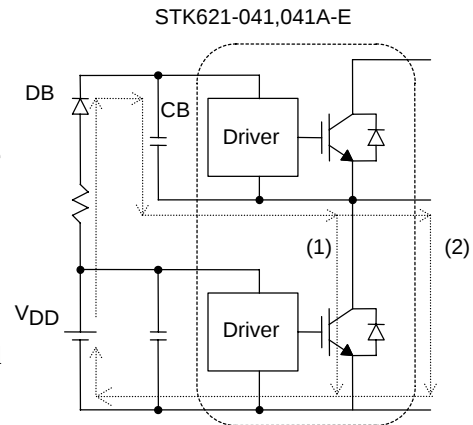

Figure 3 Bootstrap circuit and charge path
(4) VB1, VB2 and VB3 pins
These pins connect the positive power supplies for the upper-side power device pre-driver circuits. The three control power supplies each require an electrically insulated floating power supply. In addition to the method that uses three independent power supplies, this power supply can also be configured using the bootstrap circuit shown in Fig. 3. As shown in this figure, CB has a path (1) that is charged when the lower-side device is ON, and a path (2) for motor regeneration mode. The CB section voltage fluctuates according to the switching frequency and duty ratio of the external control circuit. Therefore, the CB capacitance value must be set in consideration of the voltage fluctuation. DB should use a high-speed type FRD with a fast t_{tr} and $V_R = 600V$. RB is used to limit the rush charging current during CB initial charging. Note that a large rush charging current may cause the internal circuits to malfunction. CB can also be charged before startup by connecting high-value resistors to the output pins and minus pins. (Care must be taken for the withstand voltage and the power.)